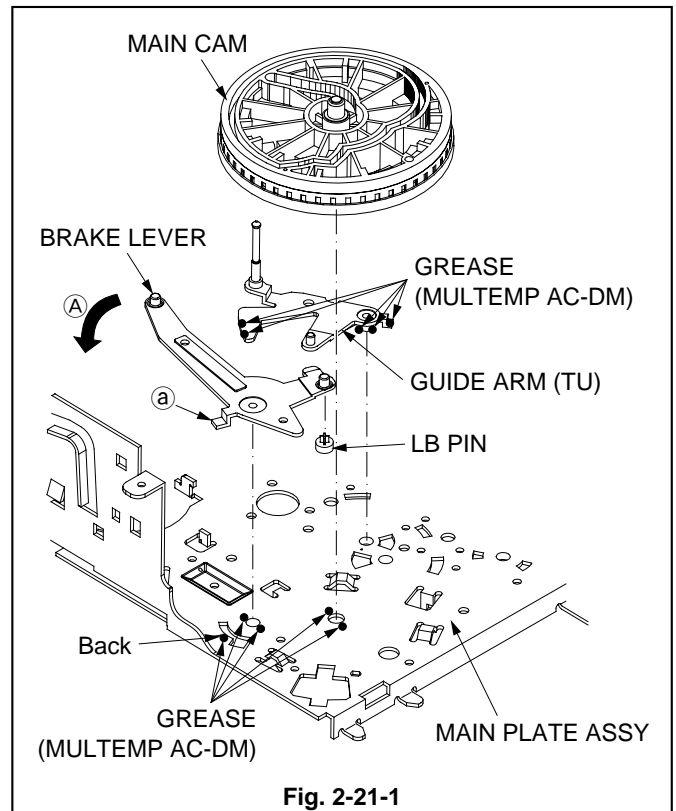

Fig. 2-21-1
1. Remove the MAIN CAM shown in the Fig. 2-21-1.
2. Remove the GUIDE ARM (TU) shown in the Fig. 2-21-1.
3. Move the BRAKE LEVER in the Fig. 2-21-1 in the direction shown by the arrow (A) and release the catch (a) to remove the BRAKE LEVER.
4. Remove the LB PIN shown in the Fig. 2-21-1.
1. Apply GREASE (MULTEMP AC-DM)[859D055O90] to the points on the new GUIDE ARM (TU) specified in the Fig. 2-21-1.
2. Apply GREASE (MULTEMP AC-DM)[859D055O90] to the points on the MAIN PLATE ASSY specified in the Fig. 2-21-1.